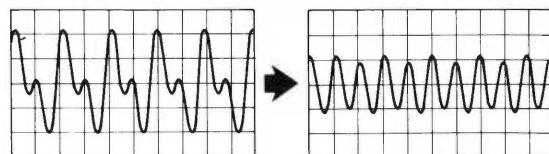

Fig. 4-6-7
- 4) Adjust the half-fixed resistor R715 (~R745) in a way that waveform of TP-13 (~TP-43) terminal turns to a sine wave with 200Hz as shown in Fig. 4-6-7.
- 5) Check TP-13 (~ TP-53) waveform outputs a sine wave of 200 Hz as shown in Fig. 4-6-7.